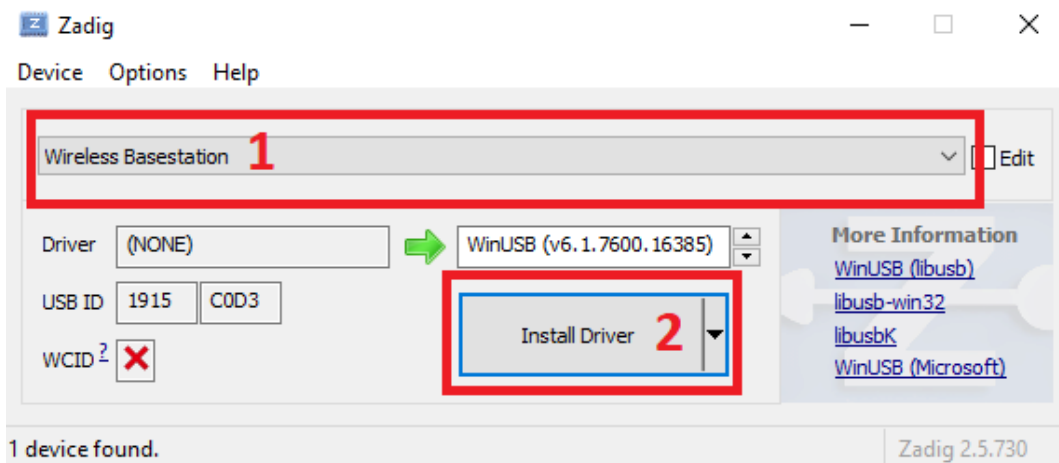

Figure 3.4: USB driver installer for Wireless Base-station.
5. Select *Wireless Base-station* from the dropdown menu (see label 1 in Figure 3.4).
6. Click on *Install Driver* (see label 2 in Figure 3.4).